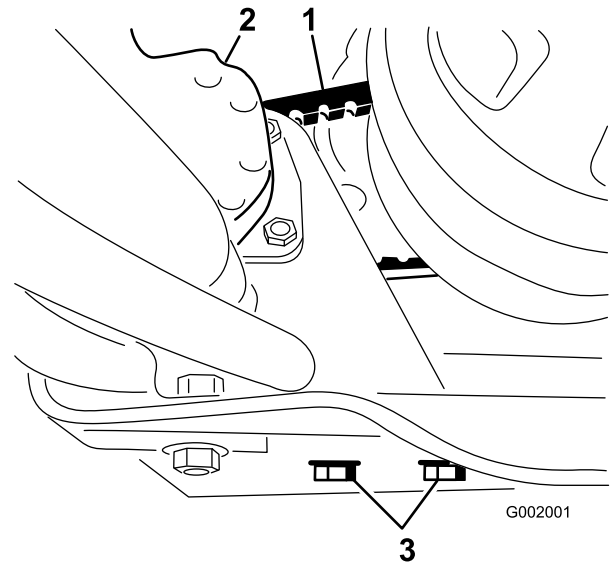

Figure 62
2. Loosen the steering pump mounting bolts (Figure 62).